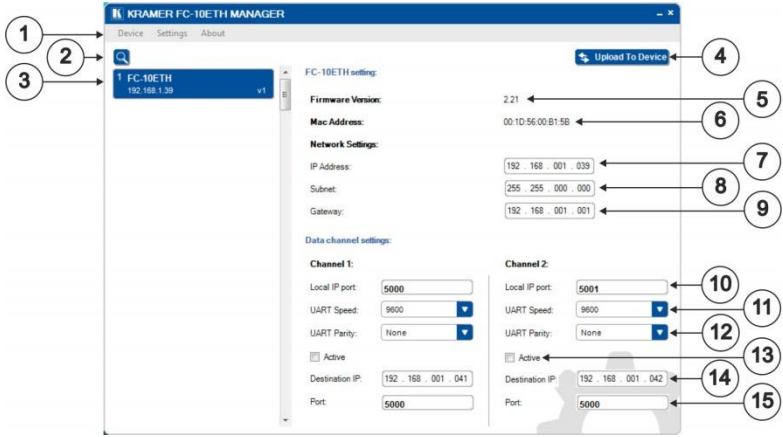

Figure 8: FC-10ETH Manager Window
The **FC-10ETH** Configuration Manager window (see Figure 8) opens.
There are two versions of the **FC-10ETH**, version 1 (V1) and version 2 (V2). The version is shown on the Device List entry (see item 3 on Figure 8).
- V1 devices use passive (see Section 4.4.1) and active (Section 4.4.2) routing modes. The Active checkbox (see item 13 on Figure 8) is displayed only for V1 devices